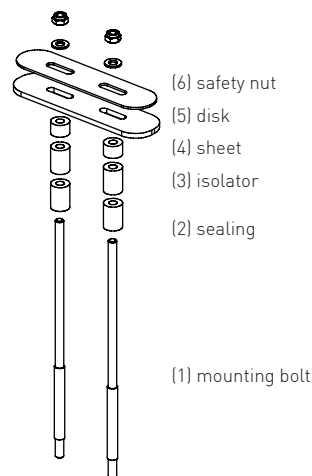

Fig. 15: assembly mounting bolts
Finally plug the distance pieces on the thruster. Insert the mounting bolts like illustrated in fig. 15 cutting them in the boat interior as necessary. Apply seals (2) according to the hull thickness (note: hull thickness + 25 %). On hulls out of GRP and boreholes of 9 mm the seals (2) can be omitted by using suitable sealant (e.g. Sikaflex).